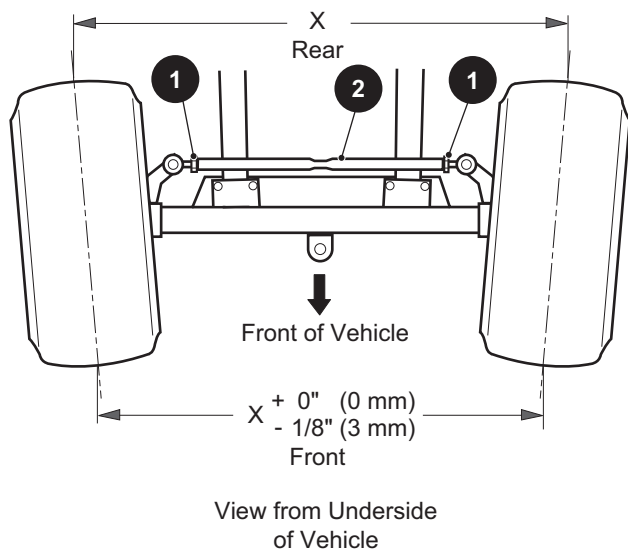

Figure 4 Wheel Alignment
3. Measure the distance between the chalk lines at both the front and rear of the tires (Ref. Figure 4). The measurement taken at the front of the tires should be 0" - 1/8" (0 - 3 mm) less than the rear.